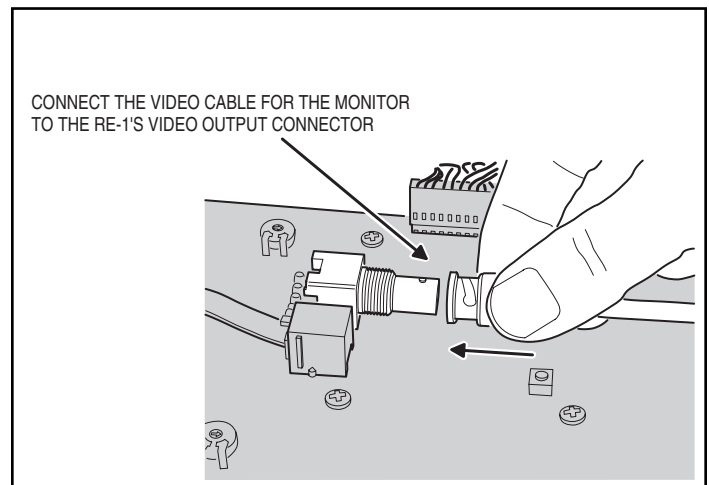

Figure 21. Connecting the Video Cable
6. Connect the video cable to the RE-1 **VIDEO** connector (see Figure 21).